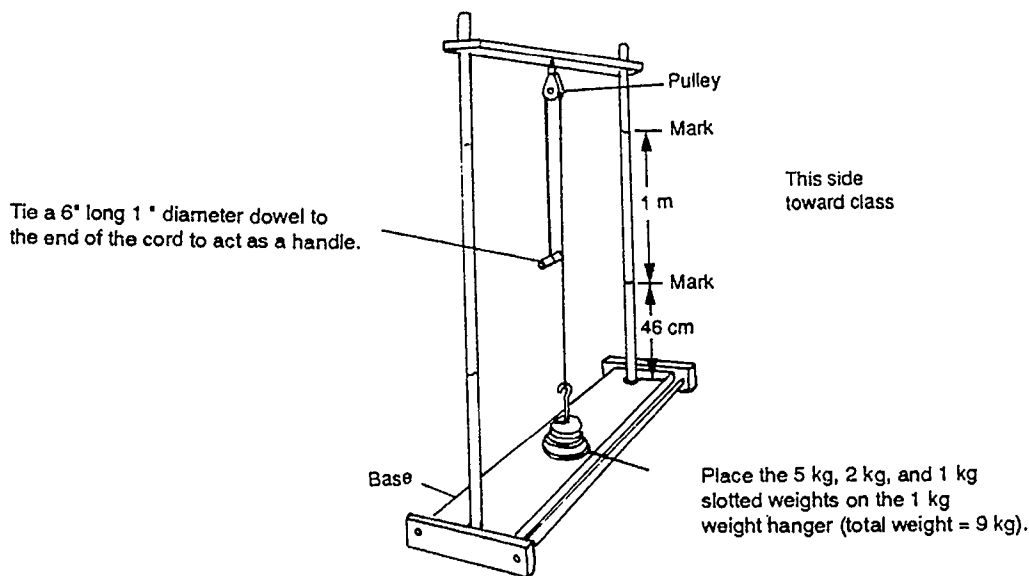

Figure 1. Demonstration setup.
- a. Set up the equipment, as shown in Figure 1.